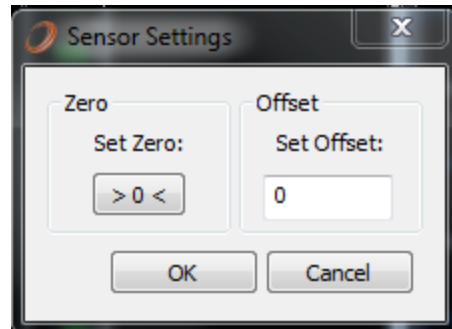

Figure 12: Set Zero/ Set Offset
- **Set Zero/ Set Offset:** you can choose the Offset of the sensor (Figure 12). Type in the Set Offset field the value needed, Set Zero button gives automatic Offset.